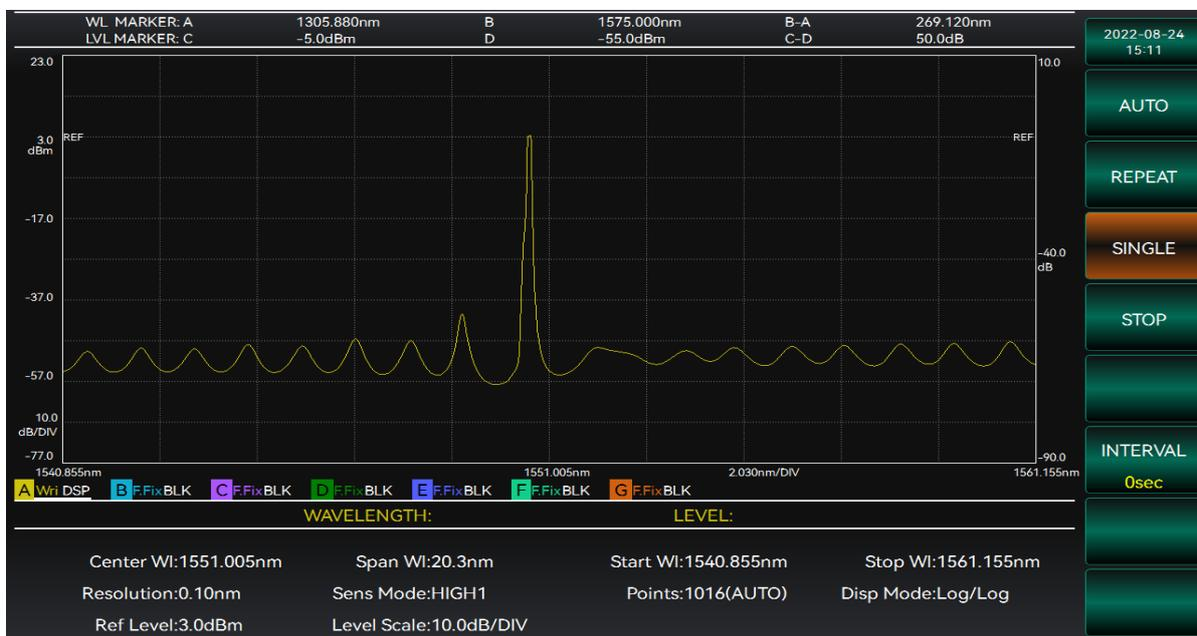

Figure 3-9 Single sweep result diagram
2. Select [Sgl Swp] to start sweeping. The sweep is completed as shown in Figure 3-9.